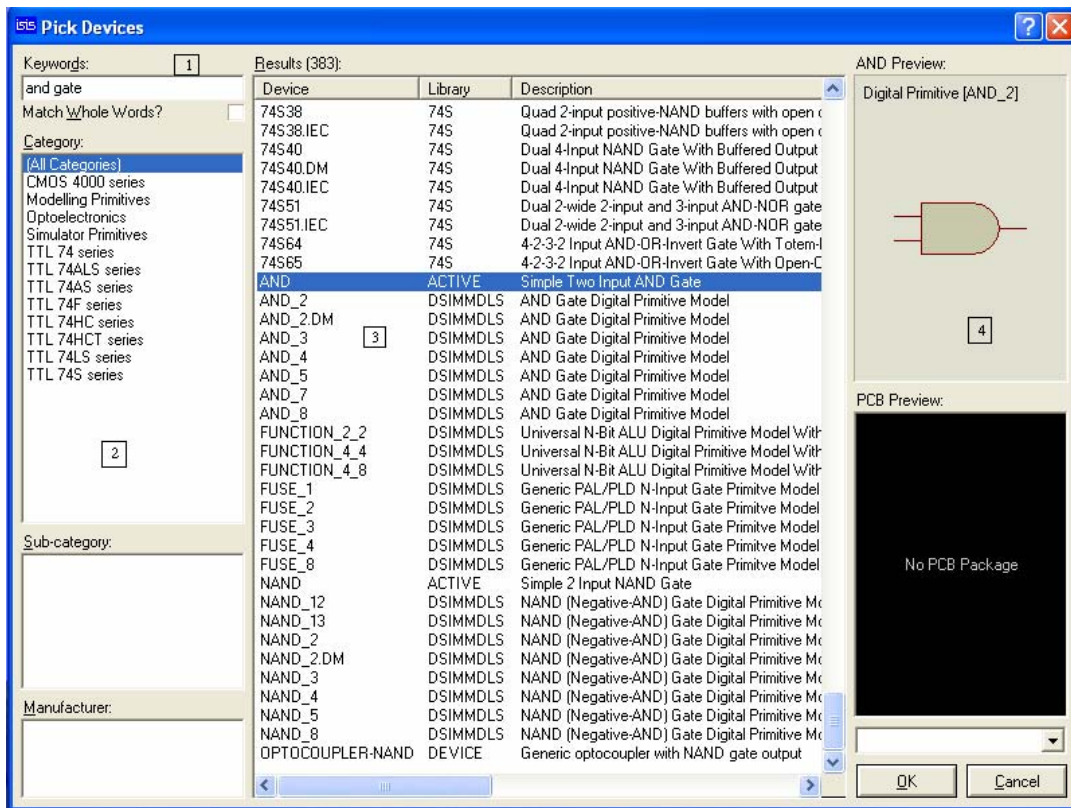

Figure 3: Example of picking device page(2)
3. After the information is put, the list of the related devices will appear in the box 3, so that needed device can be choose here and then click “OK” button to confirm the selection as shown in Figure 3.